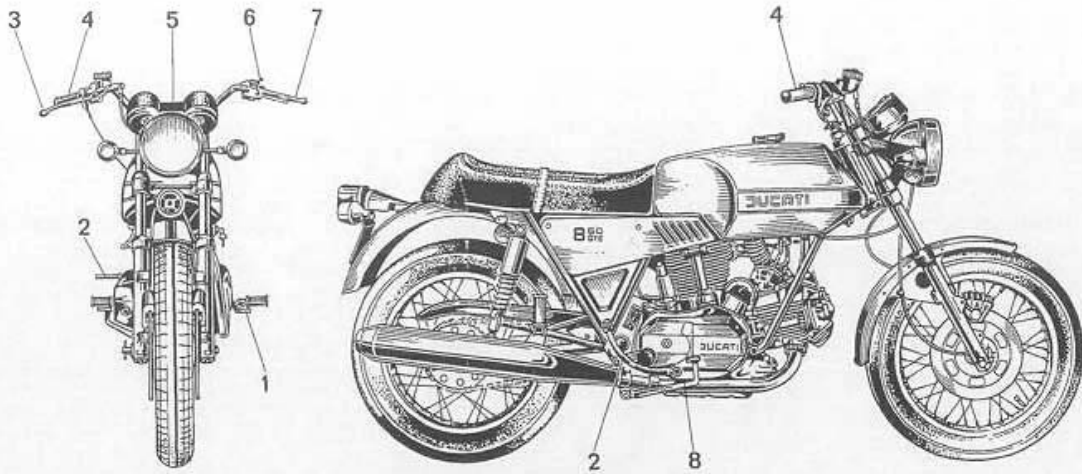

Fig. 3
**COMANDI E LUCI DI CONTROLLO****MOTOCICLO 860 GTS****Comandi (vedi fig. 3)**
**CONTROLS AND LIGHTS****860 GTS MOTORCYCLE****Controls (see fig. 3)**